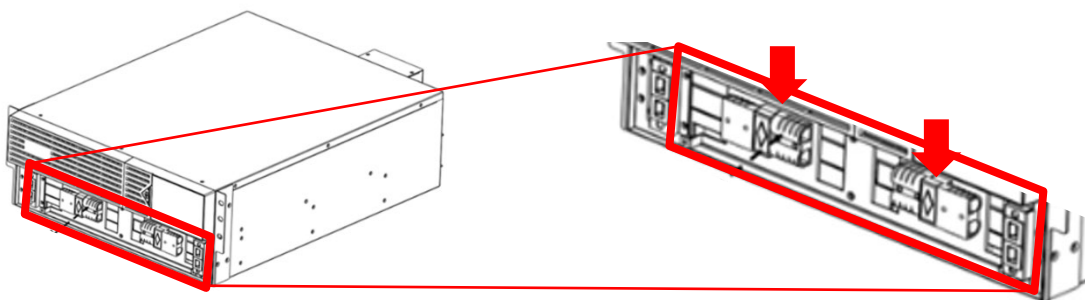
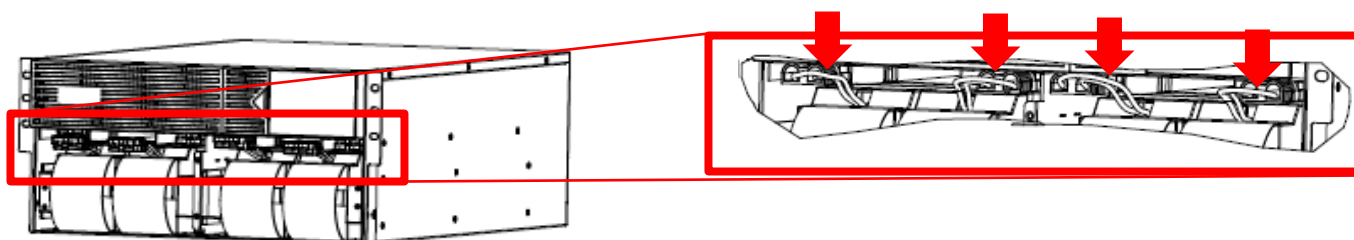

Figure 7 (5/6kVA Models)
Figure 8 (8/10kVA Models)
5. Re-insert the internal battery modules and attach to the Anderson connectors on the UPS (Fig. 7 for the 5/6kVA) / (Fig. 8 for the 8/10kVA).